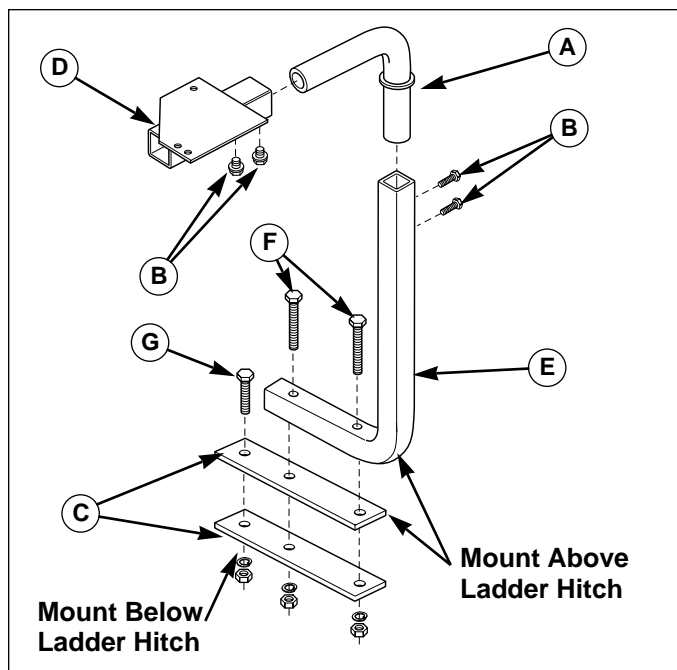

Figure 24. Assemble Upper Control Arm
1. Assemble one clamp plate (C, Figure 24) below the ladder hitch and one clamp plate (C) and lower control arm (E) above the hitch. Secure using two 1/2-13 x 5-1/2 capscrews, lockwashers, and nuts (F) and one 1/2-13 x 3-1/2 capscrew, lockwasher, and nut (G).
2. Insert the upper control arm (A, Figure 24) into the lower control arm (E) and control valve plate (D). Secure with 5/16-18 x 3/4" capscrews (B).